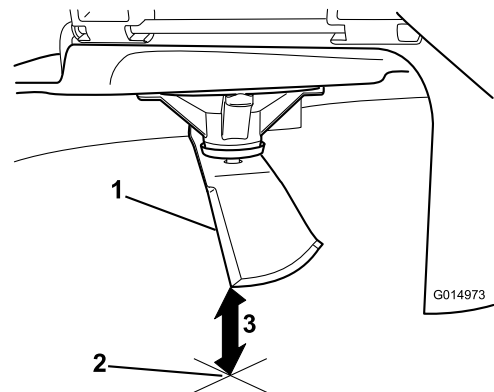

Figure 92
5. Measure from the tip of the blade to the flat surface (Figure 92).